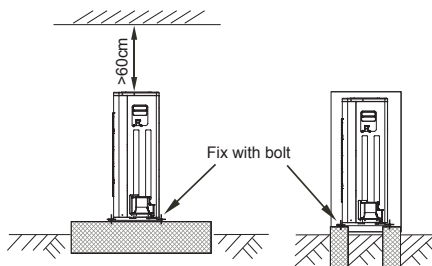

Fig.6-5
- Make concrete foundation according to the specifications of the outdoor units.(Refer to Fig.6-5)
- Fasten the feet of this unit with bolts firmly to prevent it from collapsing in case of earthquake or strong wind.(Refer to Fig.6-5)